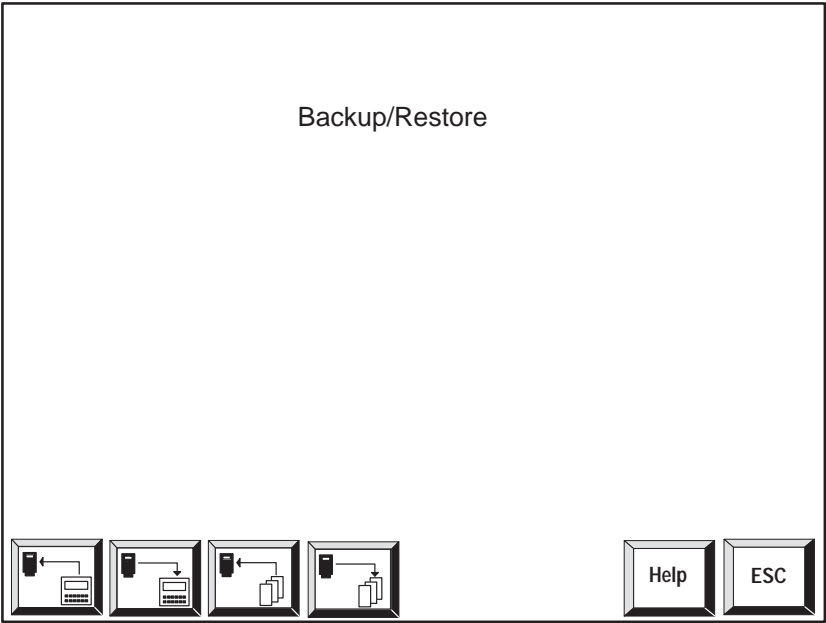

Figure 9-2    Standard screen *Backup/Restore*
**Standard screen**                The standard screen *Backup/Restore* (figure 9-2) is opened from the *System Settings* standard screen on the Touch Panel by pressing the button